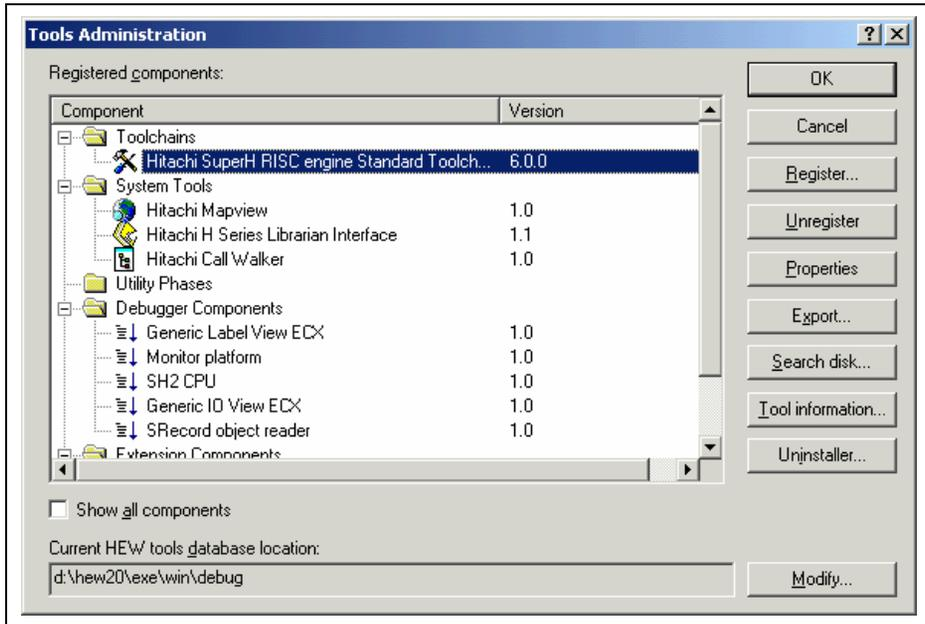
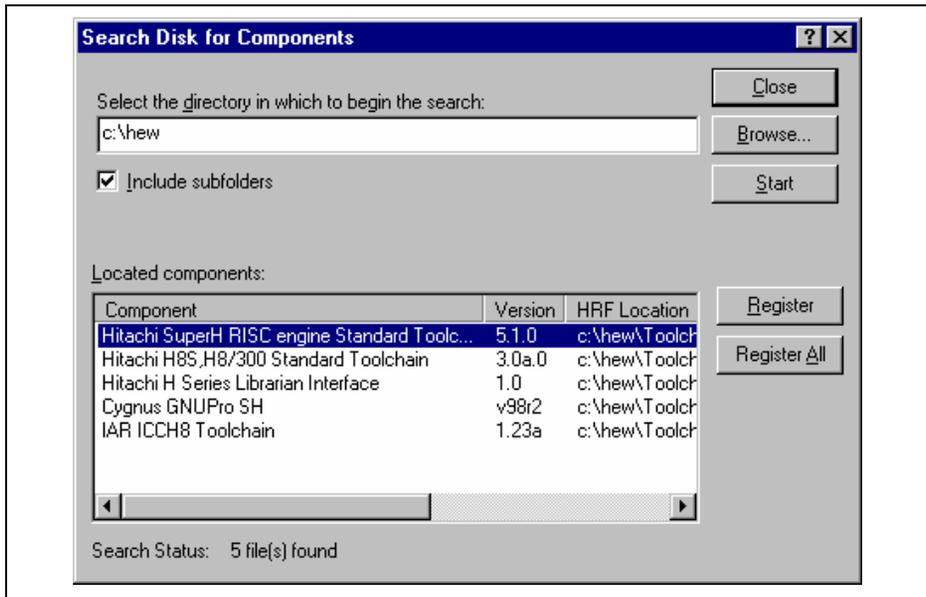

Figure 5.1: Tools Administration Dialog (Example)
Figure 5.3: Search Disk for Components Dialog
You control the components, which can be used by the High-performance Embedded Workshop via the “Tools Administration” dialog (figure 5.1), which is invoked via [**Tools->Administration...**]. Modification of the “Tools Administration” dialog box is only possible when no workspace is open, while only reference is possible when a workspace is open.
In order to use a component with HEW it must first be registered. The “Tools Administration” dialog (figure 5.1) shows all currently registered components. To access it, ensure no workspaces are open and then select [**Tools** ->**Administration...**]. If you attempt to access tools administration when there is a workspace open the tools administration dialog is opened but cannot be modified. When HEW is installed by default any new tools are automatically registered.
1. Click the “Search Disk...” button on the “Tools Administration” dialog (figure 5.1). The “Search Disk for Components” dialog will be displayed (figure 5.3).